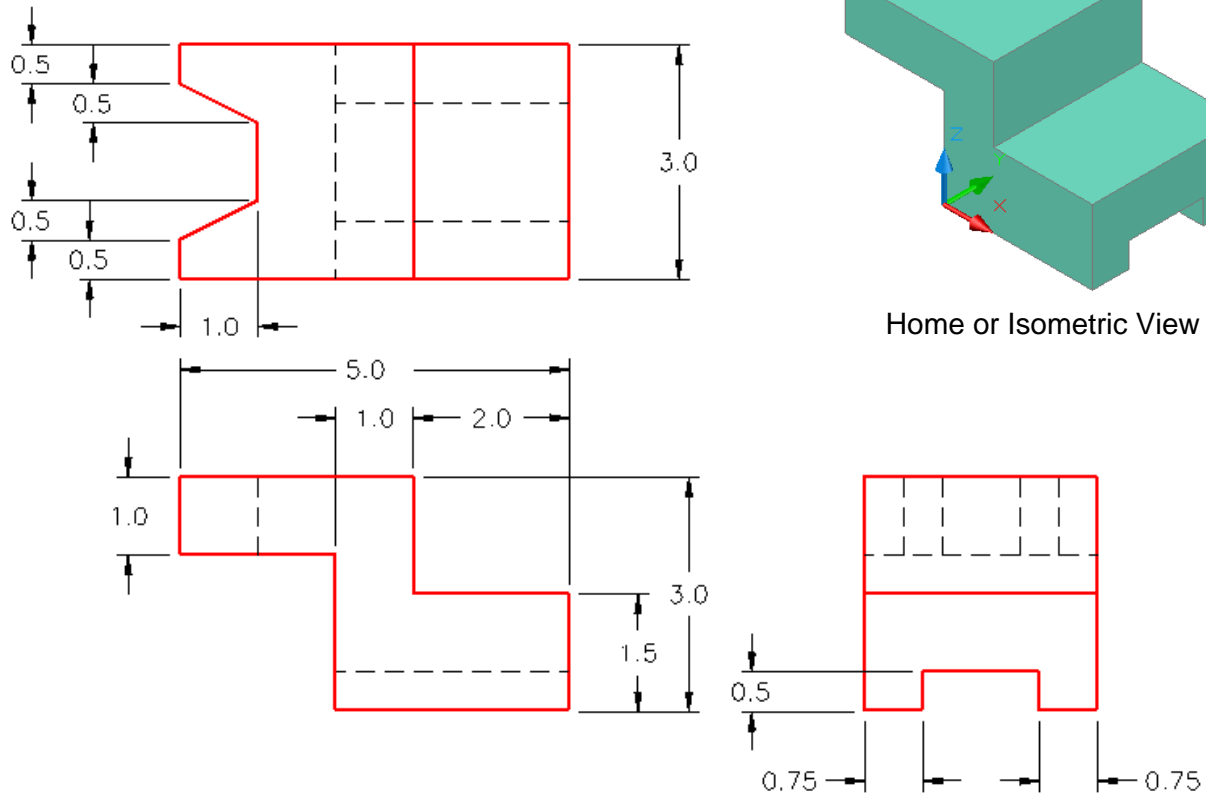

**Figure Step 6**
**Step 6** Place the cursor anywhere in the graphic window and right click the mouse. In the right-click menu, click Finish Sketch. Save the part with the name Inventor Workalong 10-1. (Figure Step 6)